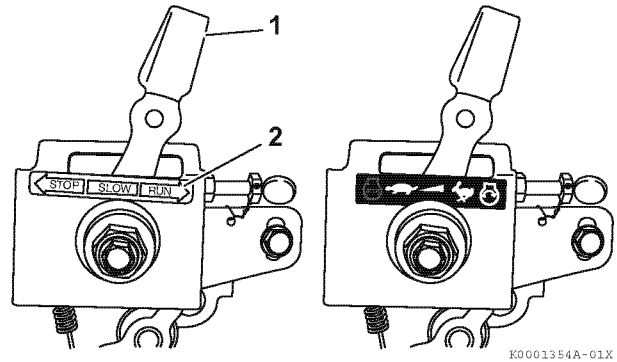

Figure 3
1. If your engine speed control is similar to **Figure 3** slide the engine speed control lever (1, **Figure 3**) to the RUN position (2, **Figure 3**).